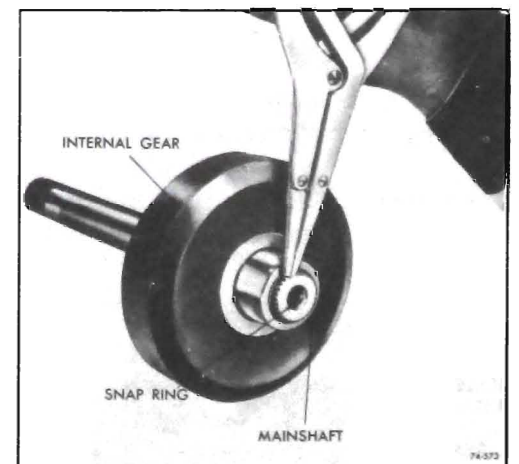

Figure 76-573
14. To remove mainshaft, remove the rear internal gear to mainshaft snap ring. See Figure 76-573.